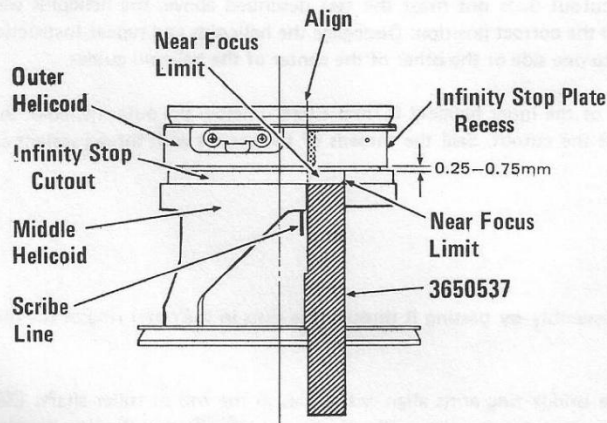

FIG. 5-2
c) Using Tool No. 3650537 as shown, place a scribe or reference line 9mm (.354") from the near focus limit of the infinity stop cutout of middle helicoid. Fig. 5-2. (Width of the tool is 9mm.)
d) Unscrew outer helicoid until a distance of 0.25mm (.010") to 0.75mm (.028") [usually about 0.5mm (.020") is right] is opened between the middle and outer helicoids and the edge of the infinity stop plate recess aligns with the scribe mark on the middle helicoid. Fig. 5-2.